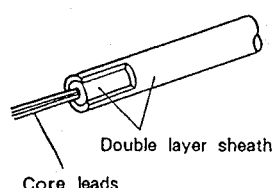

Fig. 9-2 Anode cable structure
- The anode cable structure is outlined in Fig. 9-2.